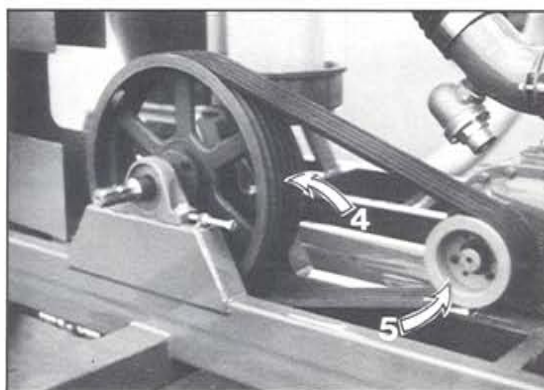

Figure 50
The PTO driven pulley (4) and the blower pulley (5) must be parallel to each other and in the same plane within 2 mm (1/16") (see figure 50).